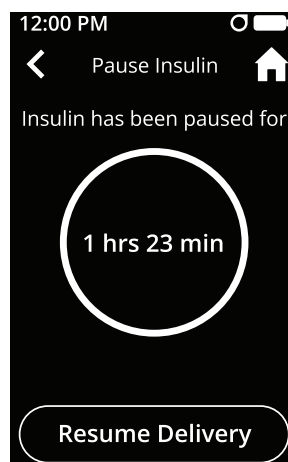

Figure 109
- e. You can resume insulin at any time by tapping the Insulin Paused banner or by going to the Menu and tapping the Pause Insulin icon. Then tap Resume Delivery (see Figure 109).